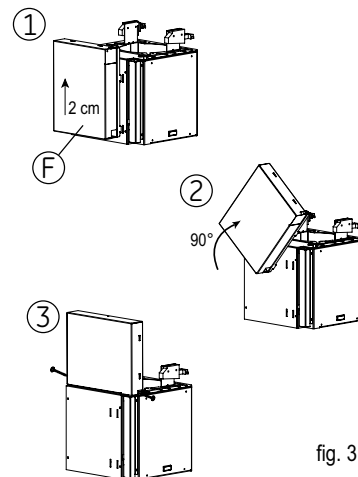

fig. 3
- Remove the adhesive tape from the component unit (F/fig. 3).
- Lift the unit around 2 cm then release it. Give it a quarter turn then slide it and fasten it using 2 screws above the motor (fig. 3).